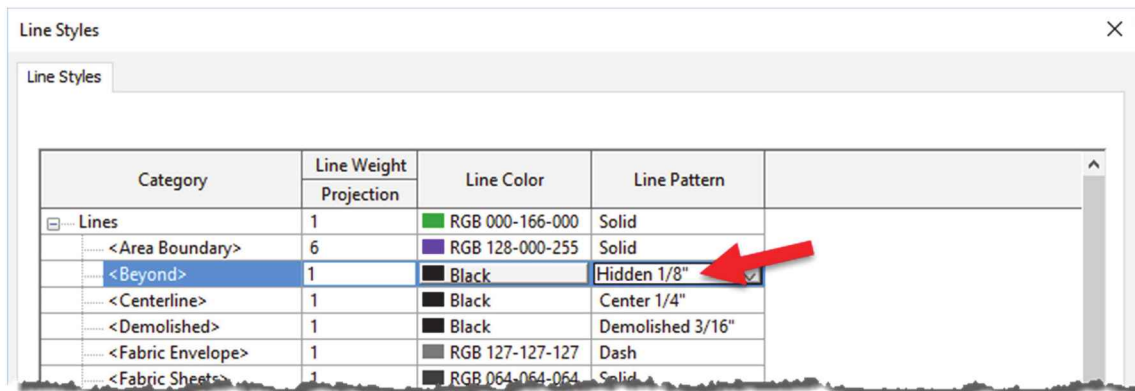

FIGURE 8-5.11 Line Style settings
48. Change the *Line Pattern* for <Beyond> to **Hidden 1/8"** (Figure 8-5.11).